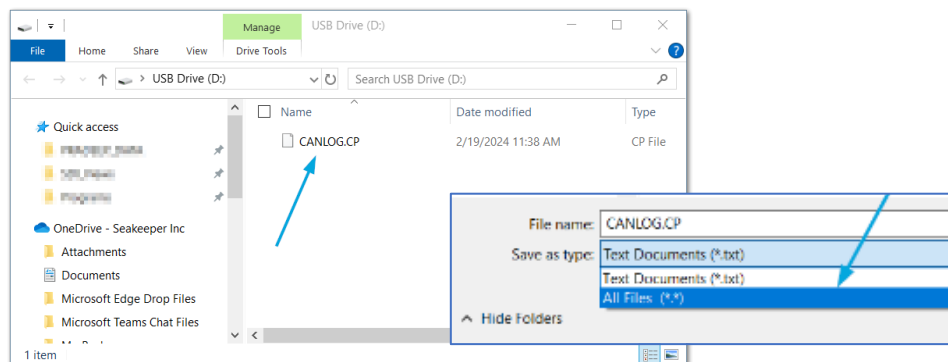

Figure 3: Flash drive plain text file created saved as file type: All Files
- SAVE** blank Notepad file as 'CANLOG.CP' onto thumb drive (Figure 3).